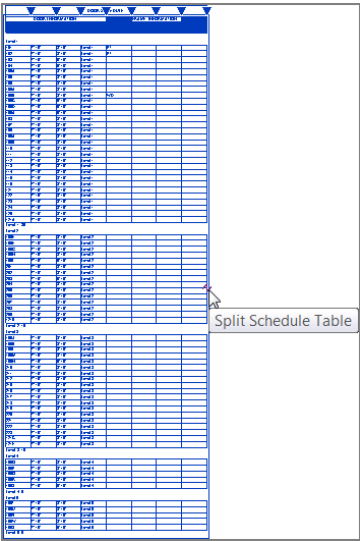

FIGURE 11.18: You can split the schedule into two (or more) sections.
- 5. Notice the blue break grip located halfway up the schedule. This is the same type of grip that is used in grids, levels, and sections. Pick it, as shown in Figure 11.18.